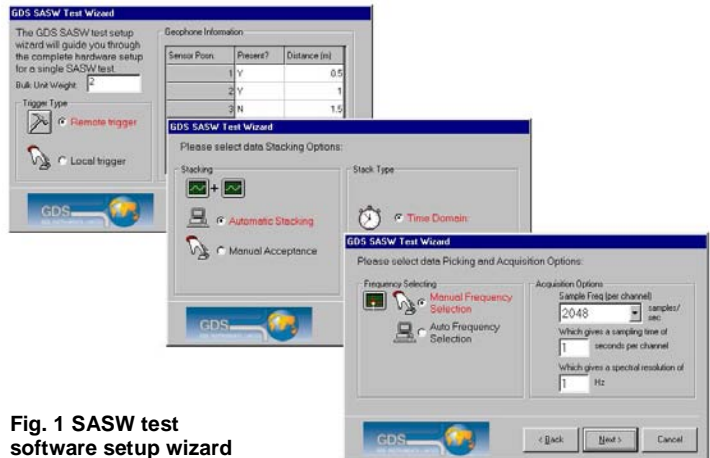

Fig. 1 SASW test software setup wizard
- Extremely simple 'wizard style' graphical user interface for test setup (see screen shots in Fig. 1)